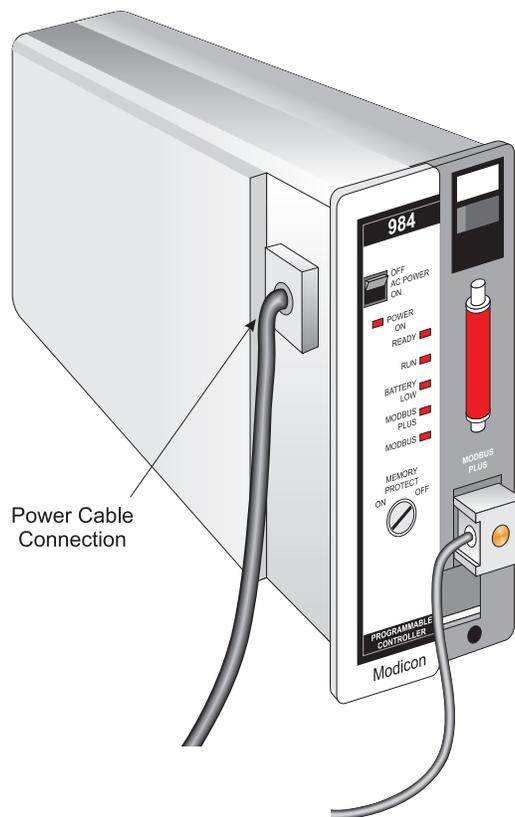

Figure 10-1
3. Disconnect the main power cable from the processor. *See Figure 10-1.*